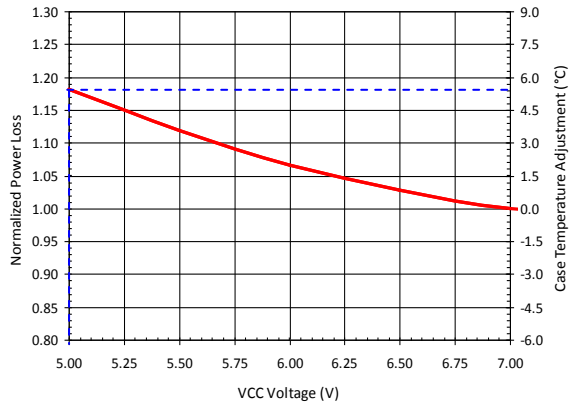

Figure 13: Normalized Power Loss vs. VCC Voltage
- 5) Determine the VCC MOSFET drive voltage normalizing factor with $V_{CC}=5V$, which is 1.18 based on the dashed lines in Figure 13.
- 12) Determine the case temperature with VCC = 5V, which is +5.4° based on the dashed lines in Figure 13.